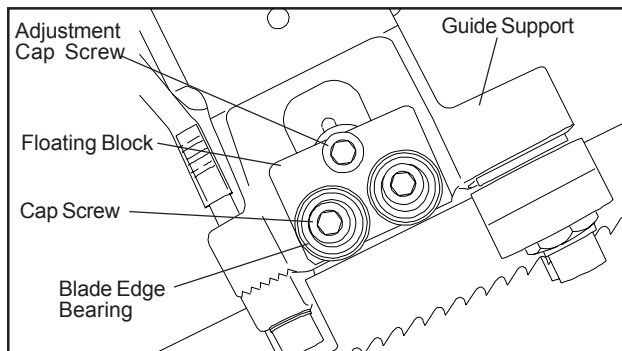

Figure 21: Blade edge bearing replacement
7. Adjust the bearings on the upper edge of the blade until they just contact the blade (see figure 21).
1. Remove the capscrew from the blade edge bearing being replaced and discard the bearing. Be careful not to lose the spring washer that separates the bearing from the floating block (see figure 21).